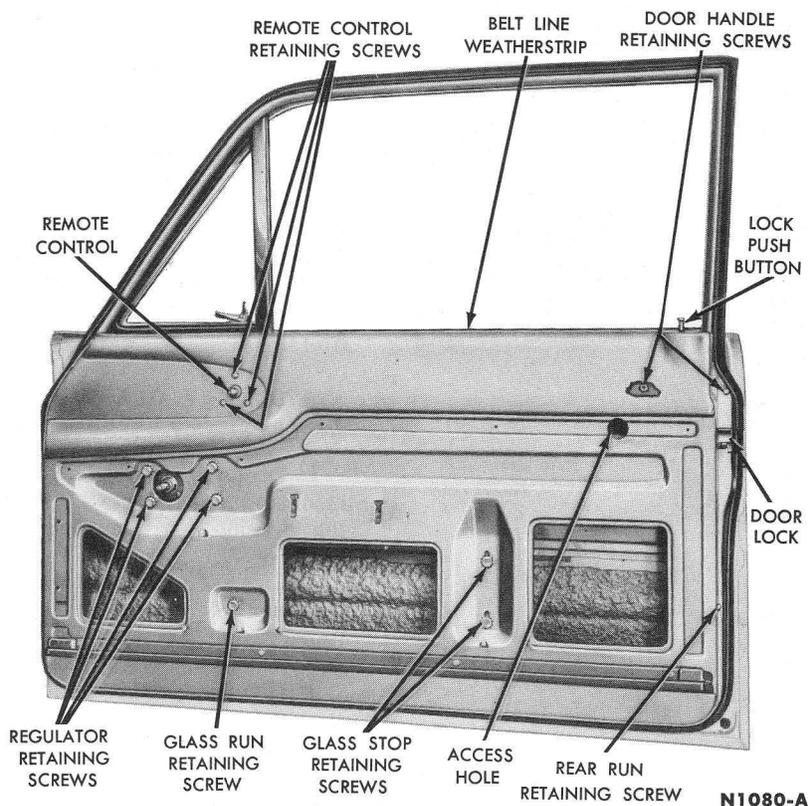

FIG. 4—Front Door
Vertical adjustment is possible by means of the single stop (Fig. 4). When the glass is fully lowered, the upper edge should be even with the belt line.
2. After removing the stop (Fig. 4), lower the glass until the regulator arm roller is out of the glass channel.